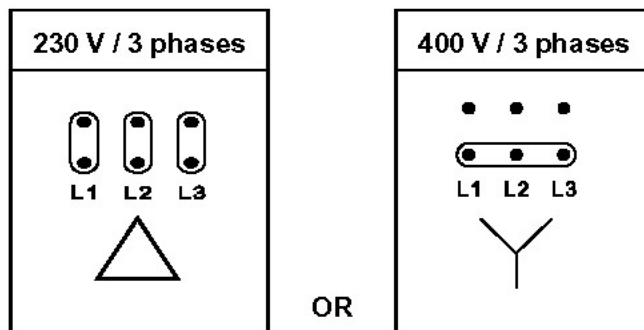

Figure 3: Electrical connection blower
- Connect the main power supply according to figure 3.